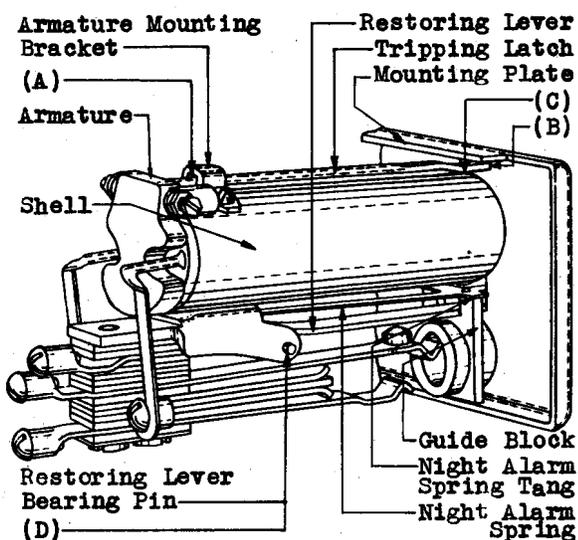

Fig. 3
(a) Fig. 3 (A) - The tripping latch shall not touch the sides of the armature mounting bracket when the armature side play is taken up. Gauge by feel.
(b) Fig. 3 (B) - The tripping latch shall not touch the sides of the slot in the mounting plate when the armature side play is taken up. Gauge by feel.
(c) Fig. 3 (C) - When the signal is in the unoperated position the tripping latch shall touch the shell at the point nearest the mounting plate but shall not touch the shell at any other position. Gauge by eye.
(a) Fig. 3 (D) - The restoring lever shall move freely on its bearing pin. Gauge by feel.